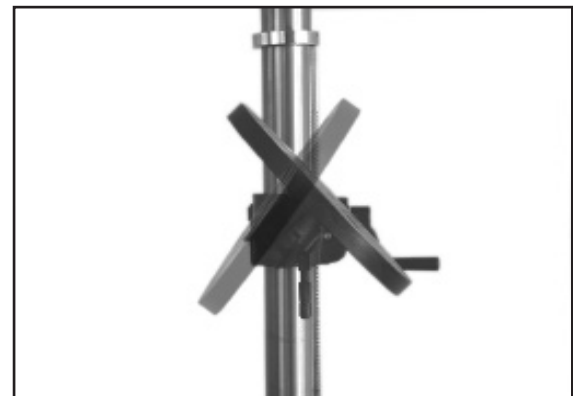

Figure 23
1. Loosen the nut below the table. (Fig. 23)